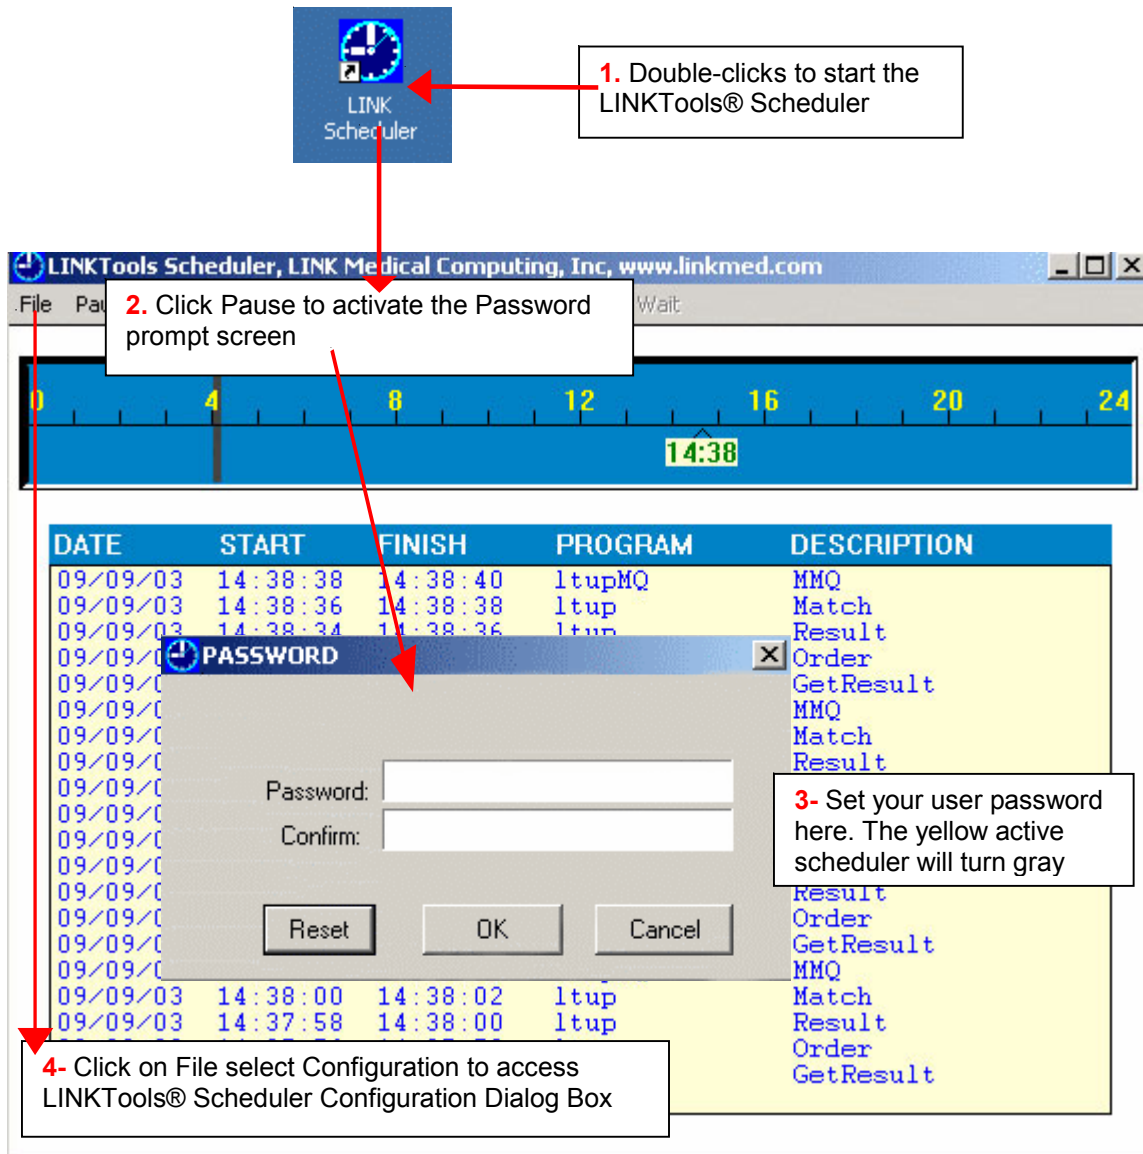

Figure 13: The LINKTools® Scheduler Desktop Shortcut Icon and first use password invocation screen.
1. Locate the LINKTools® Scheduler on the desktop shortcut, and then double-click to start LINKTools® interface automation. (Figure 13)